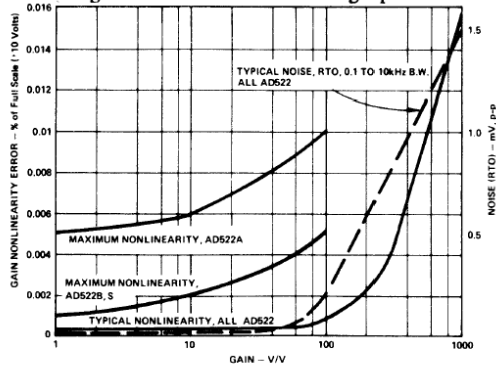

Figure 4. Gain Nonlinearity and Noise (RTO) vs. Gain
Voltage Noise, RTI (see Fig. 4)
**Gain Nonlinearity and Noise:** Gain nonlinearity increases with gain as the device loop-gain decreases. Figure 4 is a plot of typical nonlinearity vs. gain. The shape of the curve can be safely used to predict worst-case nonlinearity at gains below 100. Noise vs. gain is shown on the same graph.
Nonlinearity, max (see Fig. 4)